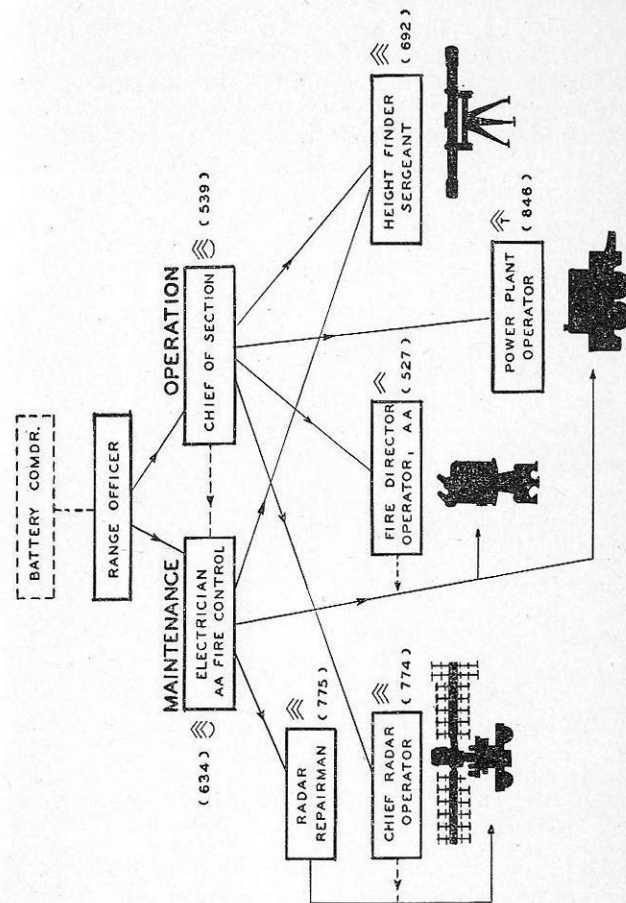

FIGURE 11.—Organization of range-detector section.
■ 21. RANGE-DETECTOR SECTION.—The range-detector section of the AA gun battery consists of the director squad, the height finder squad, a radar squad, and other personnel for maintenance, communication, and replacement. (See fig. 11.)